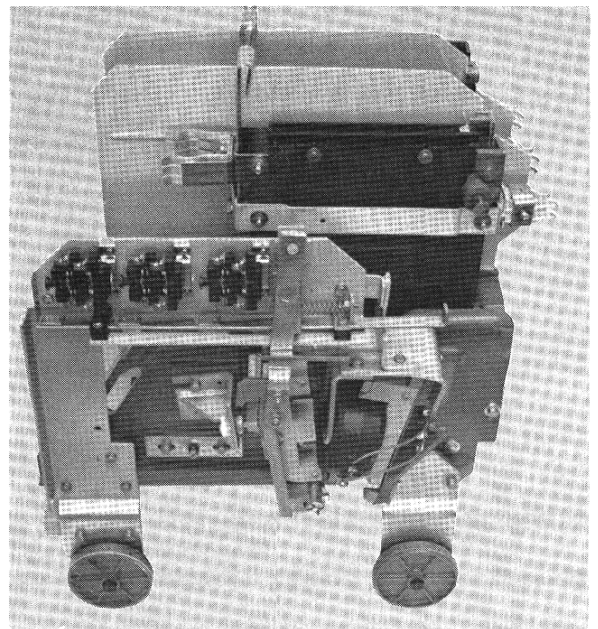

Fig. 5. IC2814E250 with interlock mounted
The IC2814E250, E251, E551 and E451 contactors are essentially versions of the IC2814E220 thru E241, E520 thru E541 and E421 contactors with 3 normally open (NO) and 3 normally closed (NC) electrical interlocks mounted on the magnet side of the contactor as shown in Fig. 5.